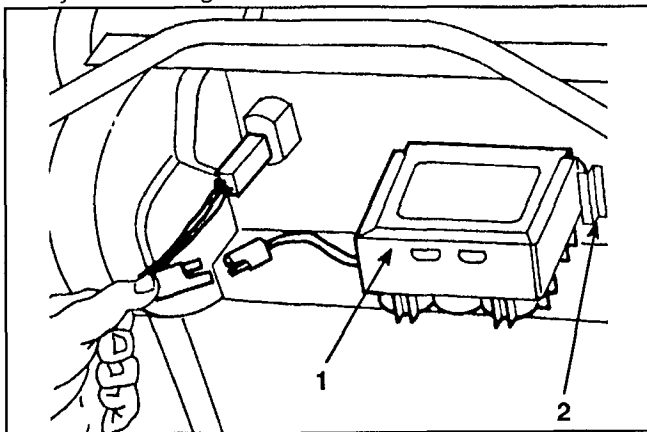

Figure 2
4. **CHARGE BATTERY** (key start model) — Refer to Charging Battery, page 14. Slide battery, decal side up, between mounting tabs on back of control panel and connect wires (Fig. 2). Insert key into switch when ready to start engine.